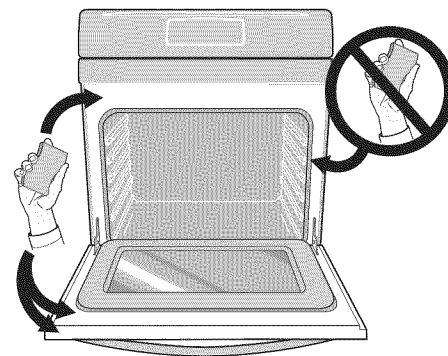

Figure 21: Clean around the oven door gasket
- Do not use oven cleaners or protective coatings in or around any part of the oven interior. Do not clean the oven door gasket. Take care not to rub, damage, or remove the gasket or use any cleaning substances on the oven door gasket (Figure 21). Doing so could cause damage and reduce the efficiency of the oven's performance.
- Clean any soil from the oven frame, door liner outside the oven door gasket, and the small area at the front center of the oven bottom with soap and water (Figure 21). These areas heat sufficiently to burn soil on.